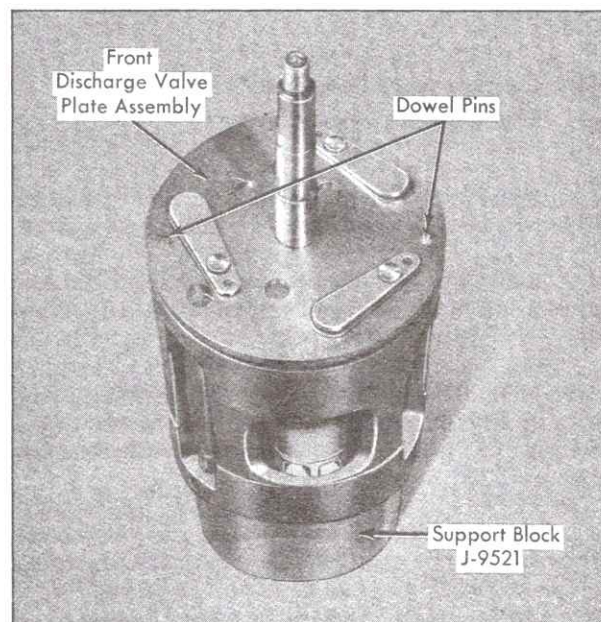

Fig. 1-64 Installing Front Discharge Valve Plate
5. Install front discharge valve plate assembly, aligning holes with dowel pins and proper openings in front suction reed plate, Fig. 1-64.